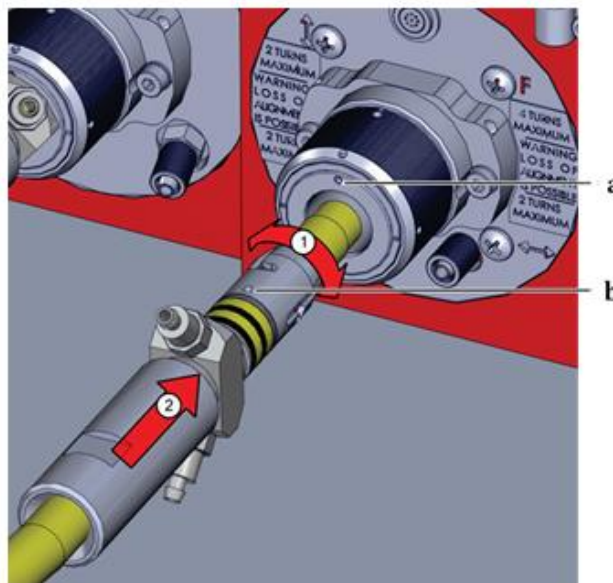

Figure 12-7 Inserting the fiber connector
13. Carefully insert the fiber connector into the optics immediately. When inserting the fiber connector, line up the red dots of the fiber connector (a) and receiver (b) and insert the connector gently until it stops (see Figure 12-7).